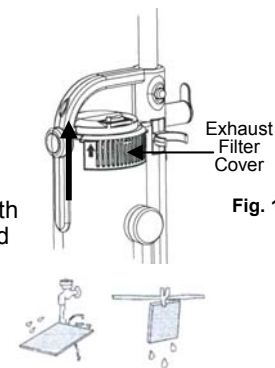

Fig. 17
- To remove the exhaust filter covers, push the exhaust filter covers up. Remove the filter. (Fig. 17)